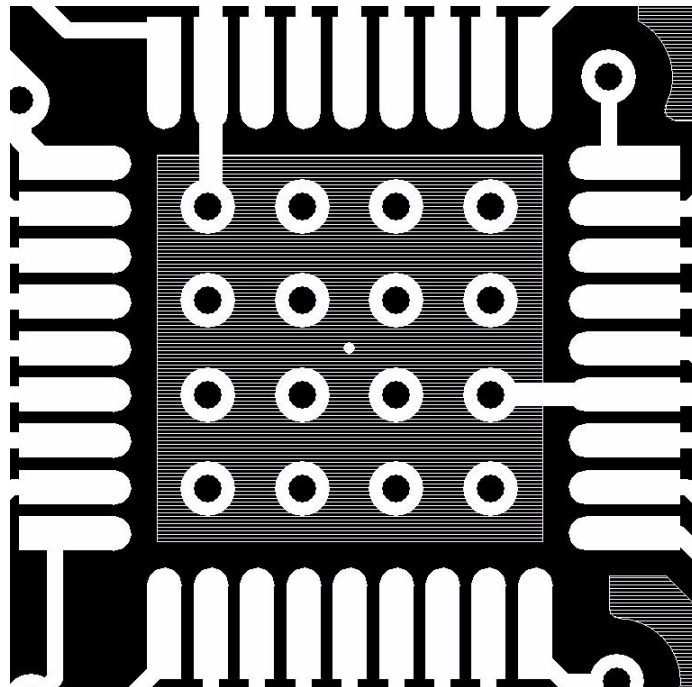

Figure 6. Ground Pad Recommended Layout
- Added Figure 6, "Ground Pad Recommended Layout," on page 57
- Replaced Figure 6.